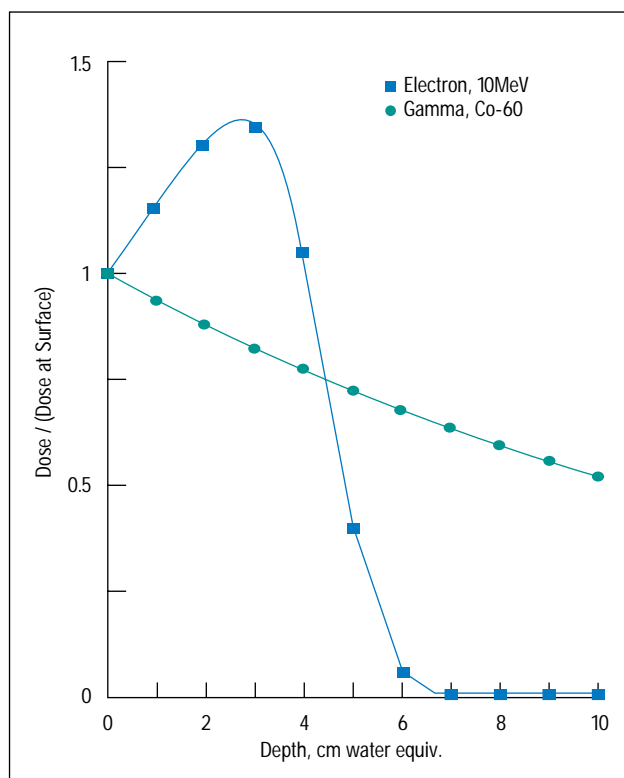

Figure 1
1. Gamma irradiation has more penetrating power than electron beam. Figure 1 (see page 2) illustrates this point.
Figure 1 (below) compares the normalized dose versus depth for a product irradiated by electron beam at 10MeV energy with another irradiated by gamma rays from a cobalt-60 source. This graph illustrates the more limited penetration of the electron beam and is valid for most plastics and objects with the density of water. Electron beams penetrate only about 6 cm of water and about as deeply into 70% isopropyl alcohol/30% water solutions, since the densities are about the same. The dose from